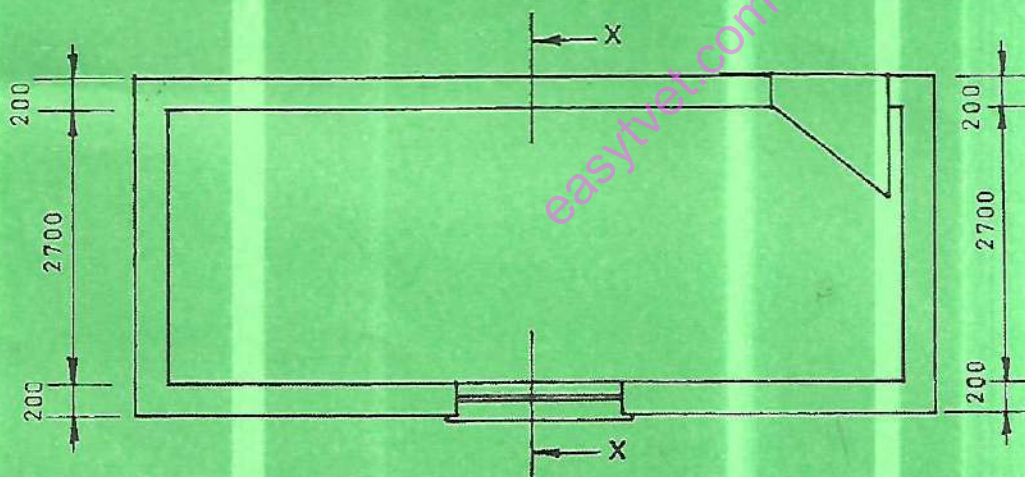

Fig. 8
8. **Figure 8** shows a plan of a house for a servant in the school compound. To a scale of 1:25, draw section X-X using the following data: